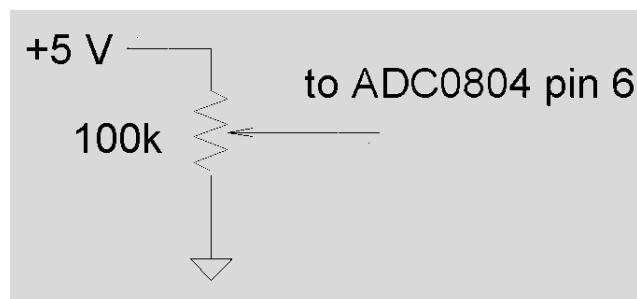

Figure 5
- b. Now build the DC input circuit shown in Figure 5. The value of the potentiometer is quite unimportant; anything from a 1k to a 100k will be fine.